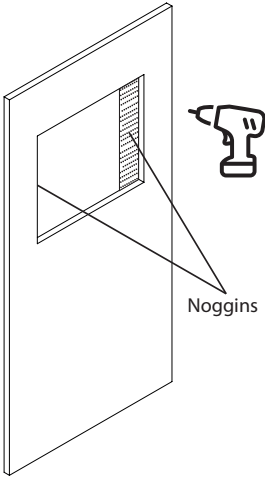

Fig 3.
4. If it is necessary, install supporting baton(s) or noggin(s) around the recessed area, *see Fig. 3*, to which the cabinet can be secured. These supports must be completely vertical and parallel to the cabinet to prevent the cabinet twisting when fitted.